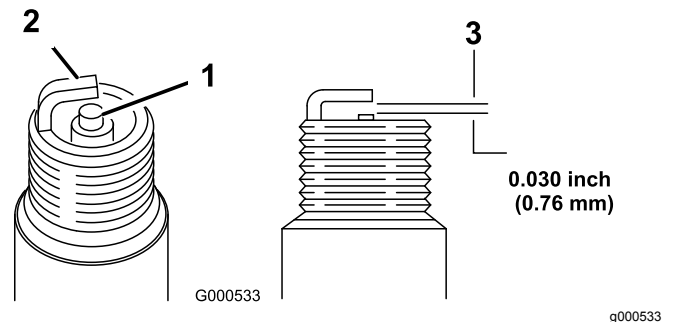

Figure 31
5. Set the gap on the plug to 0.76 mm (0.030 inch) as shown in Figure 31.